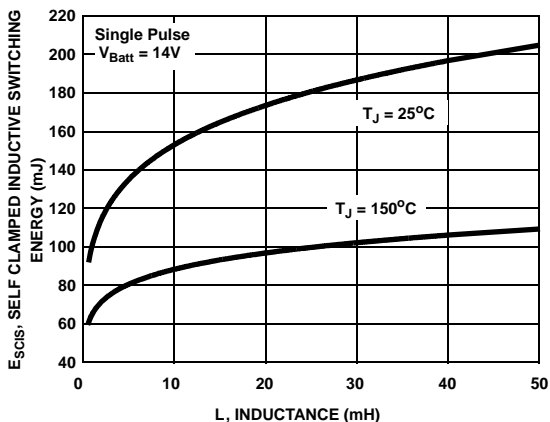

**Figure 6. Under-Voltage**
**Undervoltage** (see figure 6) The FDMS2380 will operate down to a minimum voltage of  $V_{BATT(uv)}$ . If the battery supply drops below this minimum voltage the device is forced into the Standby mode. If INA is high during this condition a 2  $\mu$ s to 10  $\mu$ s protection fault pulse is issued on the diagnostic DIAG pin. In addition, a diagnostic pulse will be generated each time INA transitions from a low to a high logic level while remaining in this under-voltage condition.